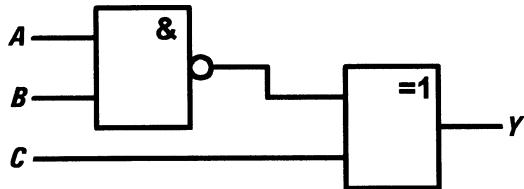

Figure A2.21
45. Redraw Fig. A2.21 using American (MIL/ANSI) symbols. [Page 164]